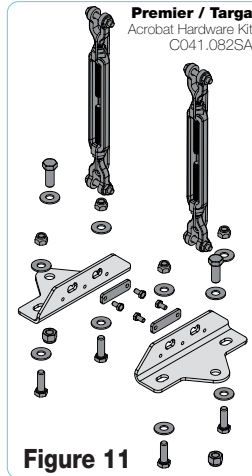

Figure 11
3. Mouse a heavy gauge wire (by others) through the Turnbuckle Jaw and Body (See Fig.11).